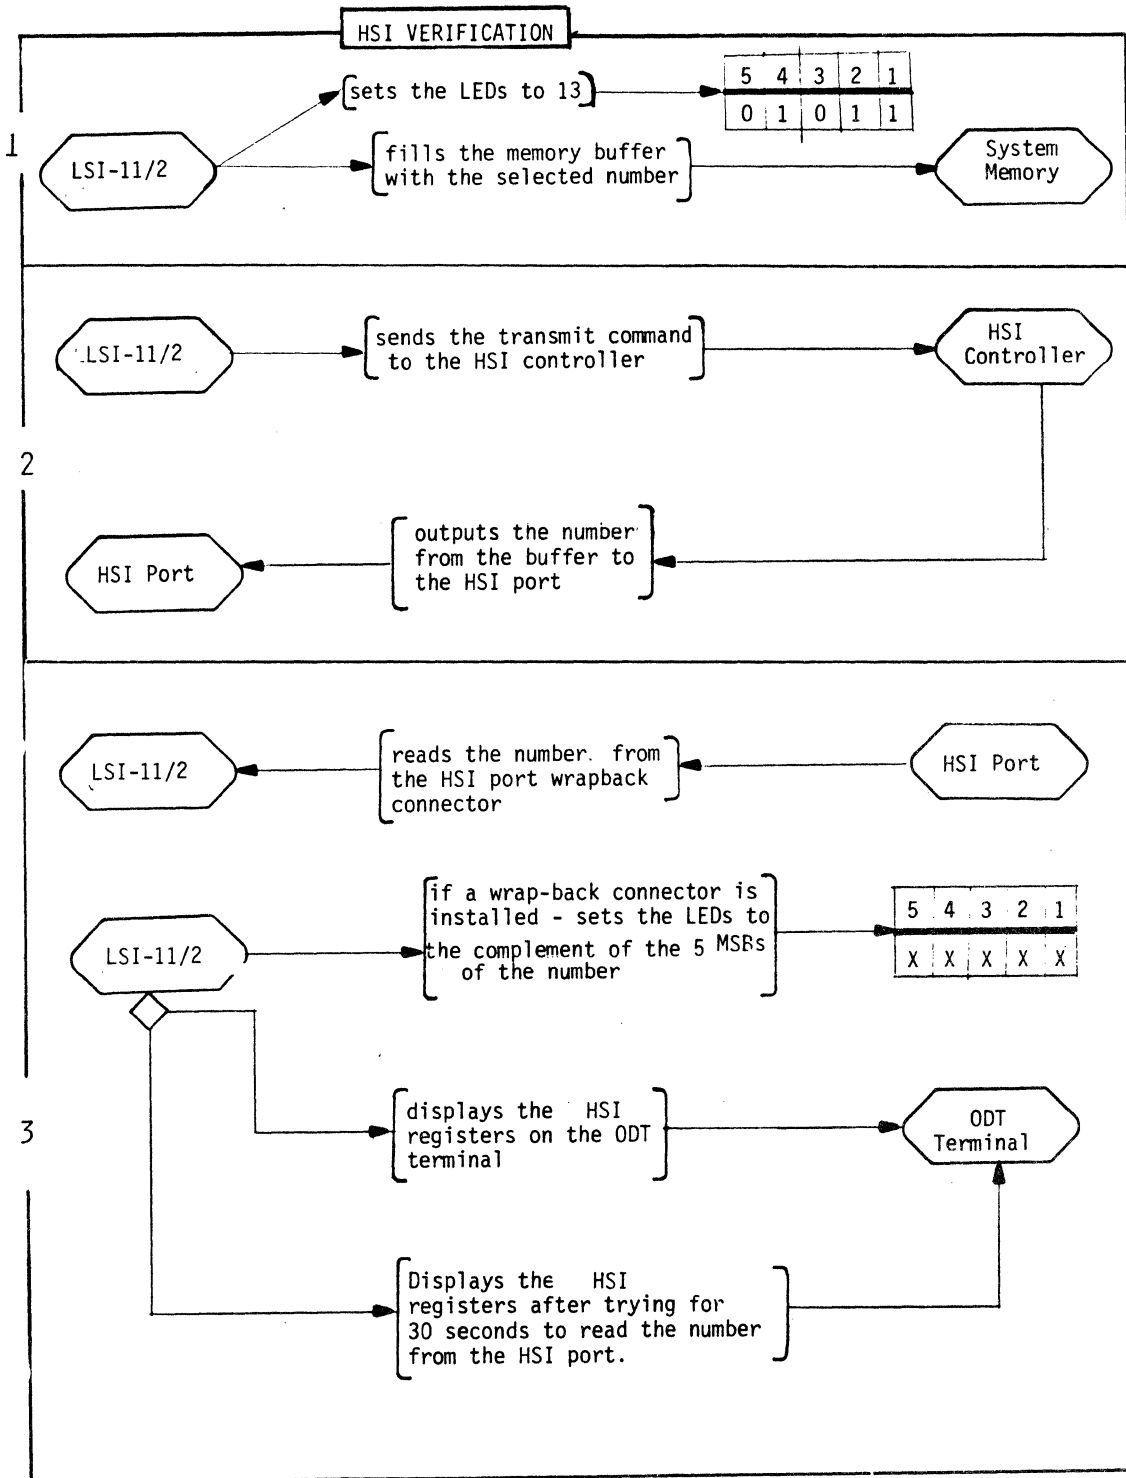

Fig. 3-25. The HSI test.
1. SET LEDS TO 13 (Fig. 3-25). The test starts by setting the LEDs to 13. It then continues and fills the 30 K-byte memory buffer with the specified octal number.